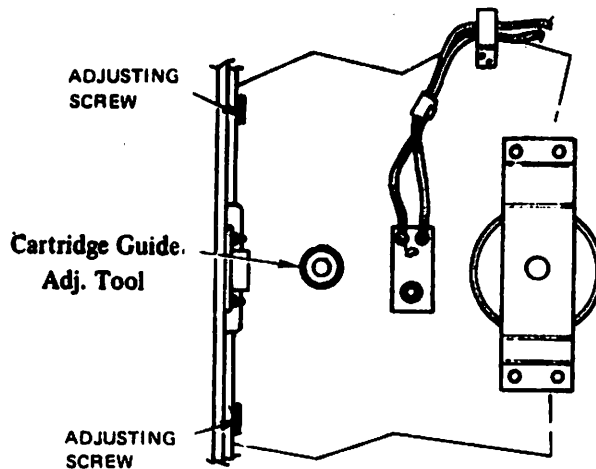

FIGURE 4 CARTRIDGE GUIDE ADJUSTMENT
- a. Insert the adjustment tool (726-9612) through the hole in the cartridge guide and screw completely into the casting (hand tight). Reference Figure 4.